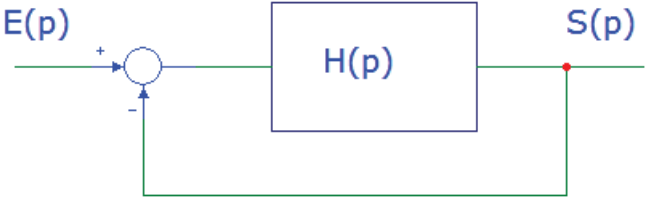

fig.2
- From the figure 2 diagram, it demonstrates the relationship giving  $T(j\omega)$ .